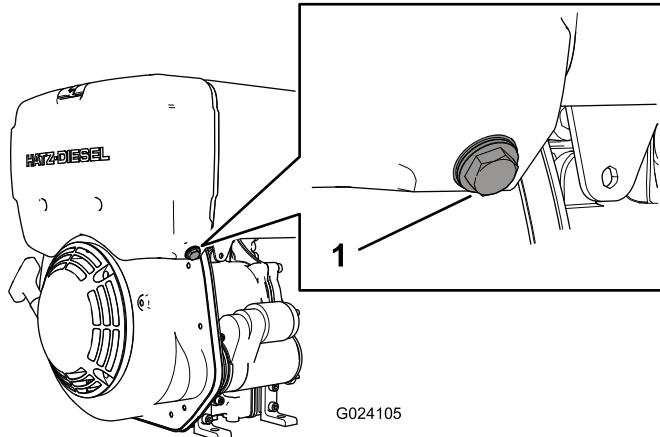

Figure 7
- 2. Loosen the water-trap bolt 3 to 4 rotations (Figure 7).